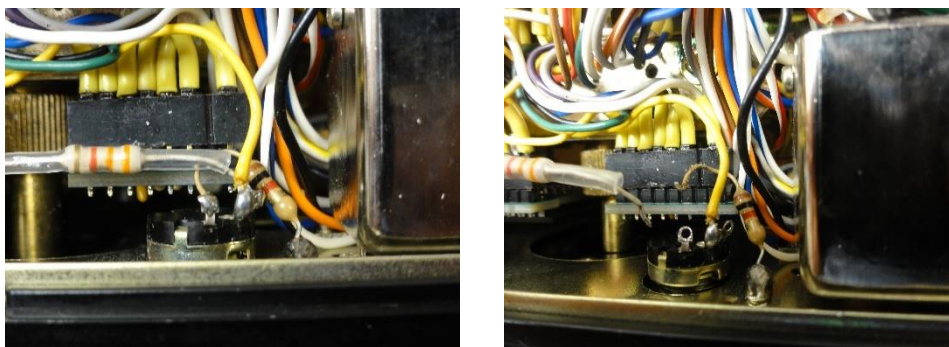

Figure 7
- Solder off the two resistors R14 (1k Ω) and R15 (3.3k Ω) from the CALIB potentiometer VR6 (5k Ω), see Figure 7 .